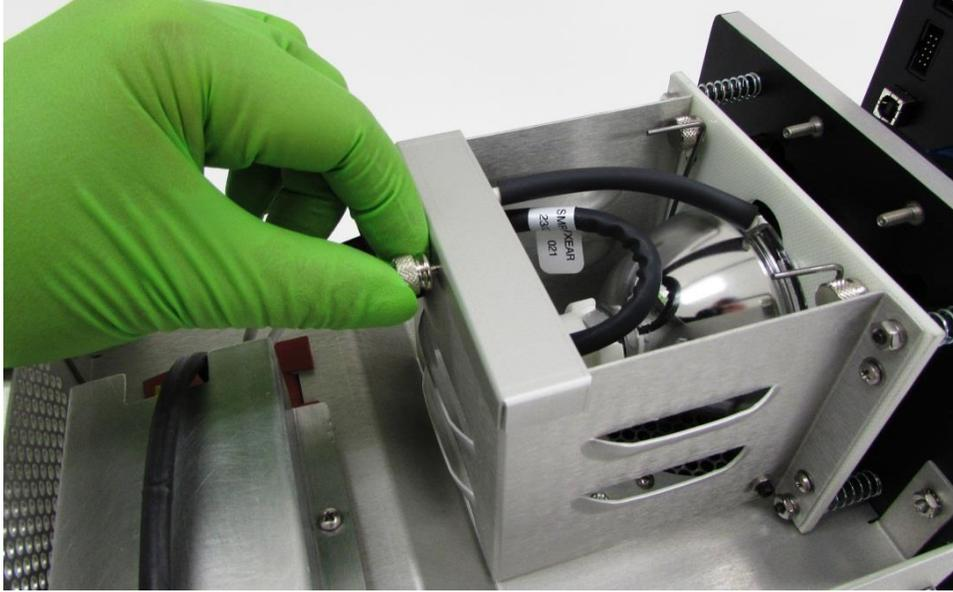
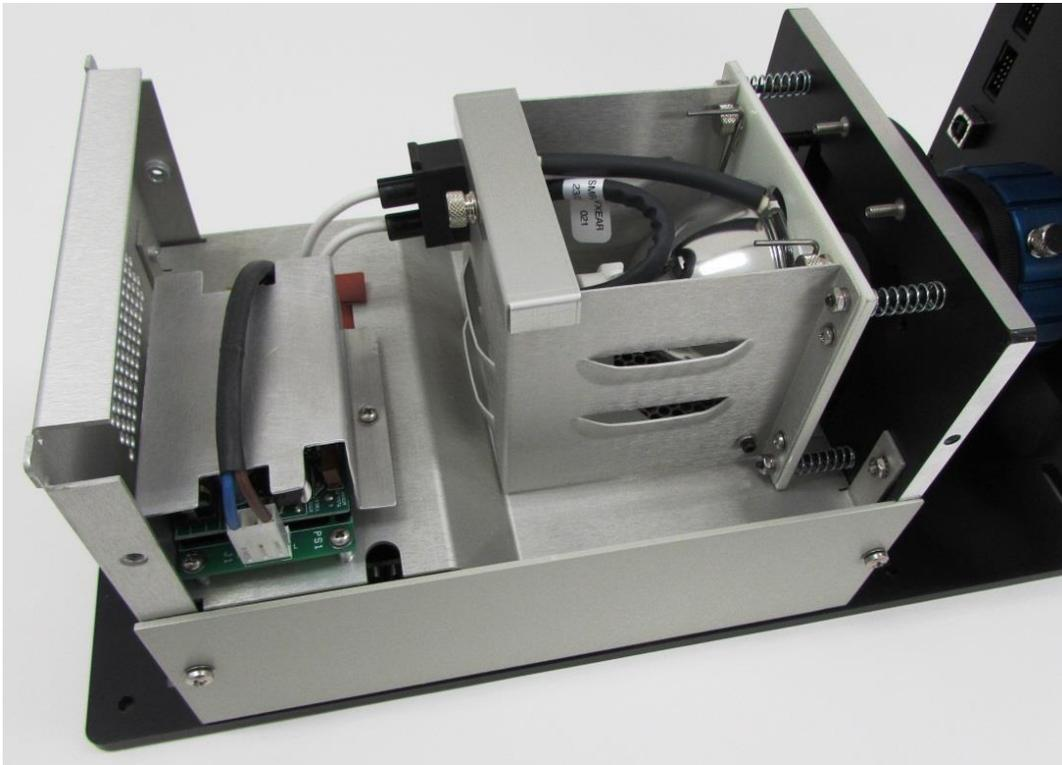

Figure 18: Re-attach Lamp Cable Holder
Figure 19: Completed Lamp Installation
9. Re-attach the lamp cable holder which was set aside earlier by tightening the thumb screw as shown in Figure 18. The completed lamp installation is shown in Figure 19.